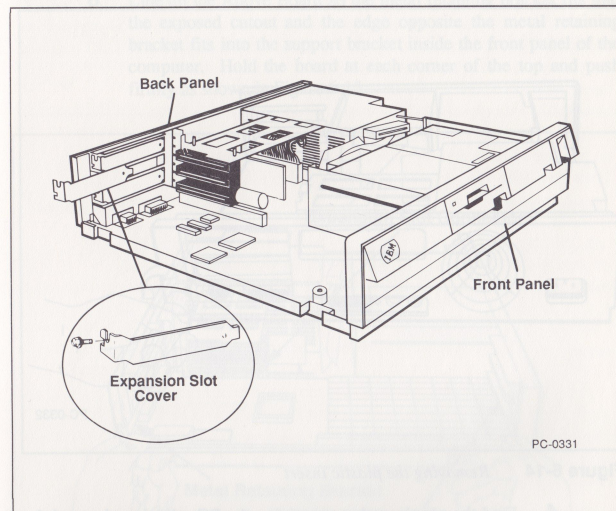

Figure 6-13 Location of an expansion slot cover
- 2 Remove the screw holding the cover of the top or middle unused expansion slots. Save the screw to use later. Remove the expansion slot cover. Figure 6-13 shows the location of the screw and an expansion slot cover.